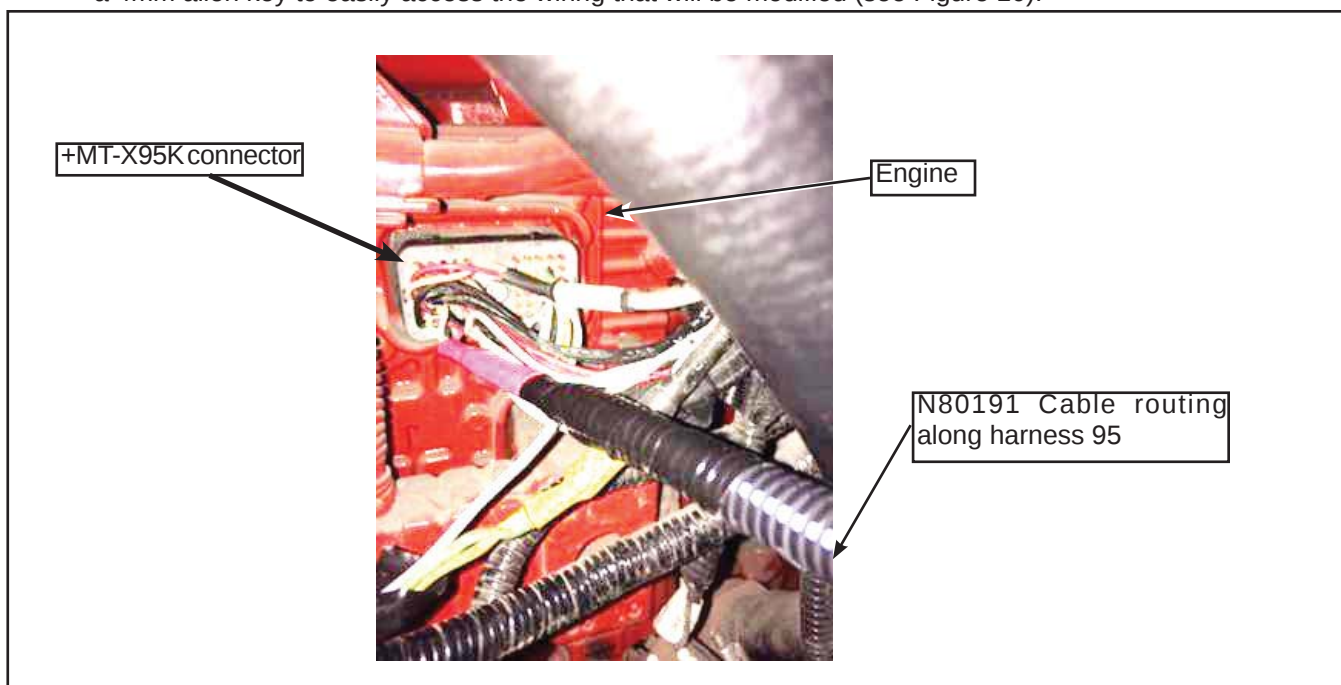

Figure 10 - Cable Routing Along Harness 95
- 1.11. Cable routing towards the +MT-X95K connector on the engine, remove the connector from the engine using a 4mm allen key to easily access the wiring that will be modified (see Figure 10).